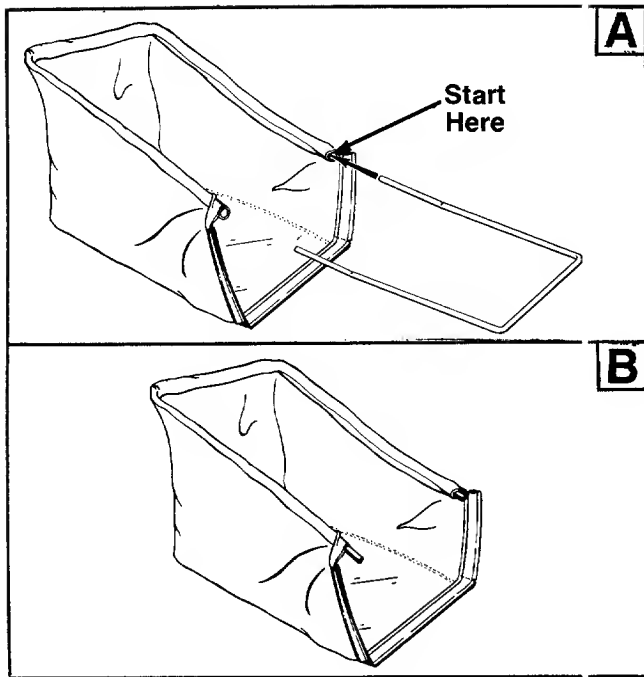

FIGURE 13.
1. Insert one end of the rear frame into the cloth channel on the edge of the grass catcher bag. Feed all the material on one side of the frame before working it around the frame. See figure 13.